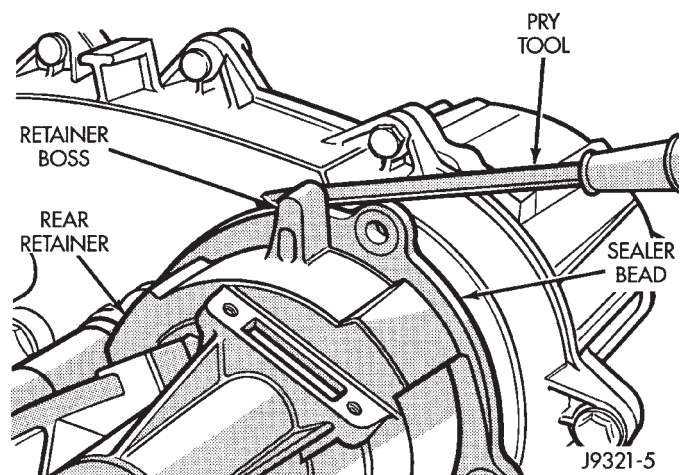

Fig. 5 Loosening Rear Retainer
- (6) Loosen rear retainer with pry tool to break sealer bead. Pry only against retainer boss as shown (Fig. 5).